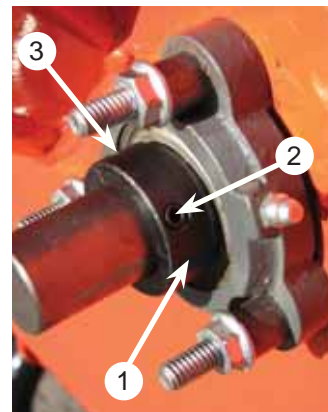
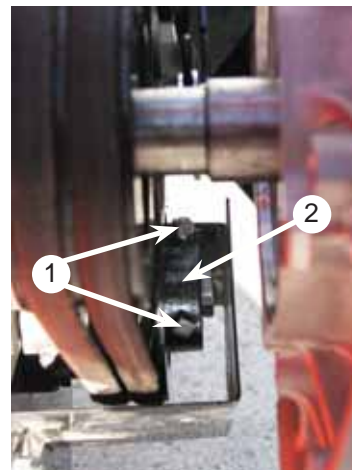

Figure 5.6, Chute Side Bearing
Figure 5.7, Engine Side Bearing
2. Loosen the set screws (1) holding the lock collars (2) on the chute side (Figure 5.6) and engine side (Figure 5.7) bearings.
3. Use a punch and hammer in punch hole (3) to tap the lock collars in the opposite direction of normal rotation.